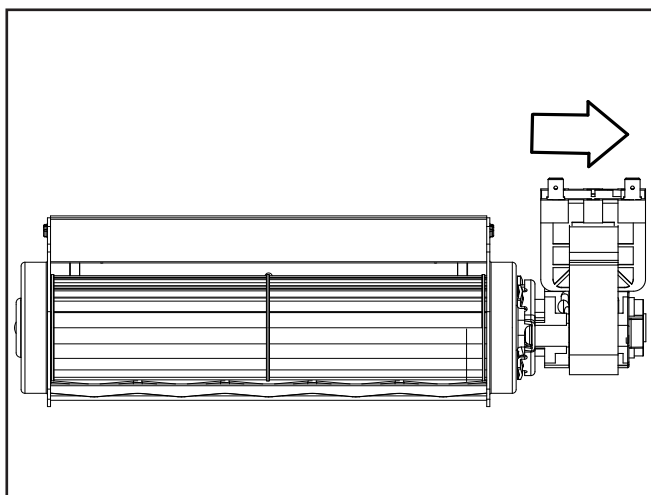
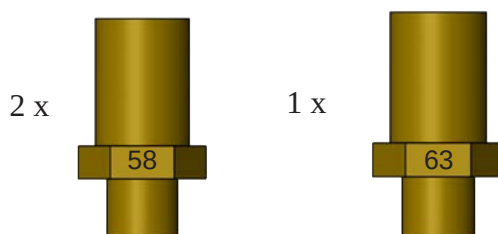
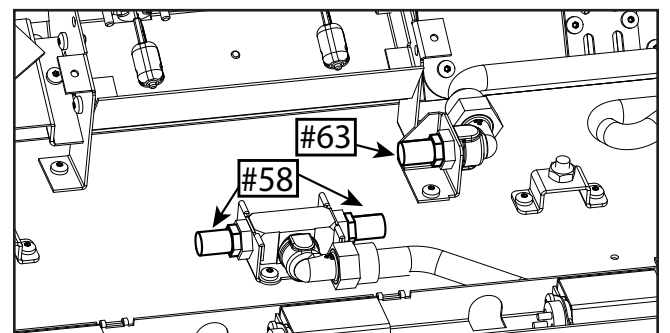

Figure 34: Pulling out the motor
Figure 38: Orifice Markings
Figure 39: Burner Orifice Locations
- Pull the motor out slightly and rotate it 90 degrees counterclockwise into the next set of slots on the blade assembly (Figure 34).
5. Convert the burner pan orifices with the one provided in this kit using a **ratchet and 1/2" socket** (Figure 38). There are two #58 orifices that are for the elevated burners and one #63 orifice that is used for the pan burner. The markings can be found on the side of each orifice (See figure 39). For specific instal locations of each orifice see Figure 34.